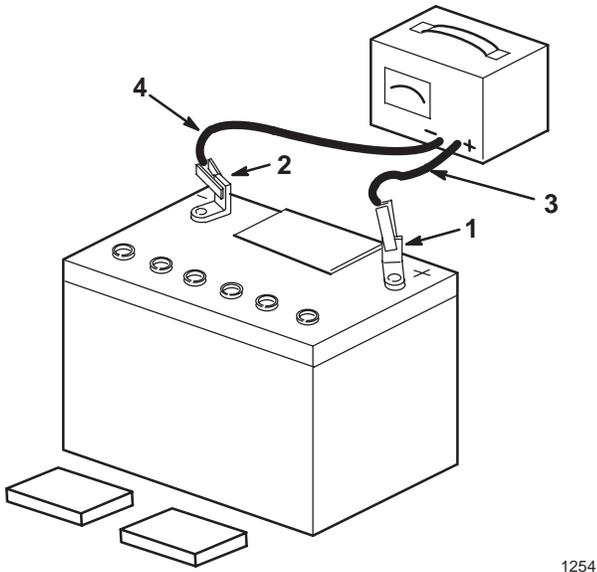

Figure 3
5. Leave the covers off and connect a 3 to 4 amp battery charger to the battery posts (Fig. 3). Charge the battery at a rate of 4 amperes or less for 4 hours (12 volts).
6. When the battery is fully charged, disconnect the charger from the electrical outlet and from the negative and positive battery posts (Fig. 3).